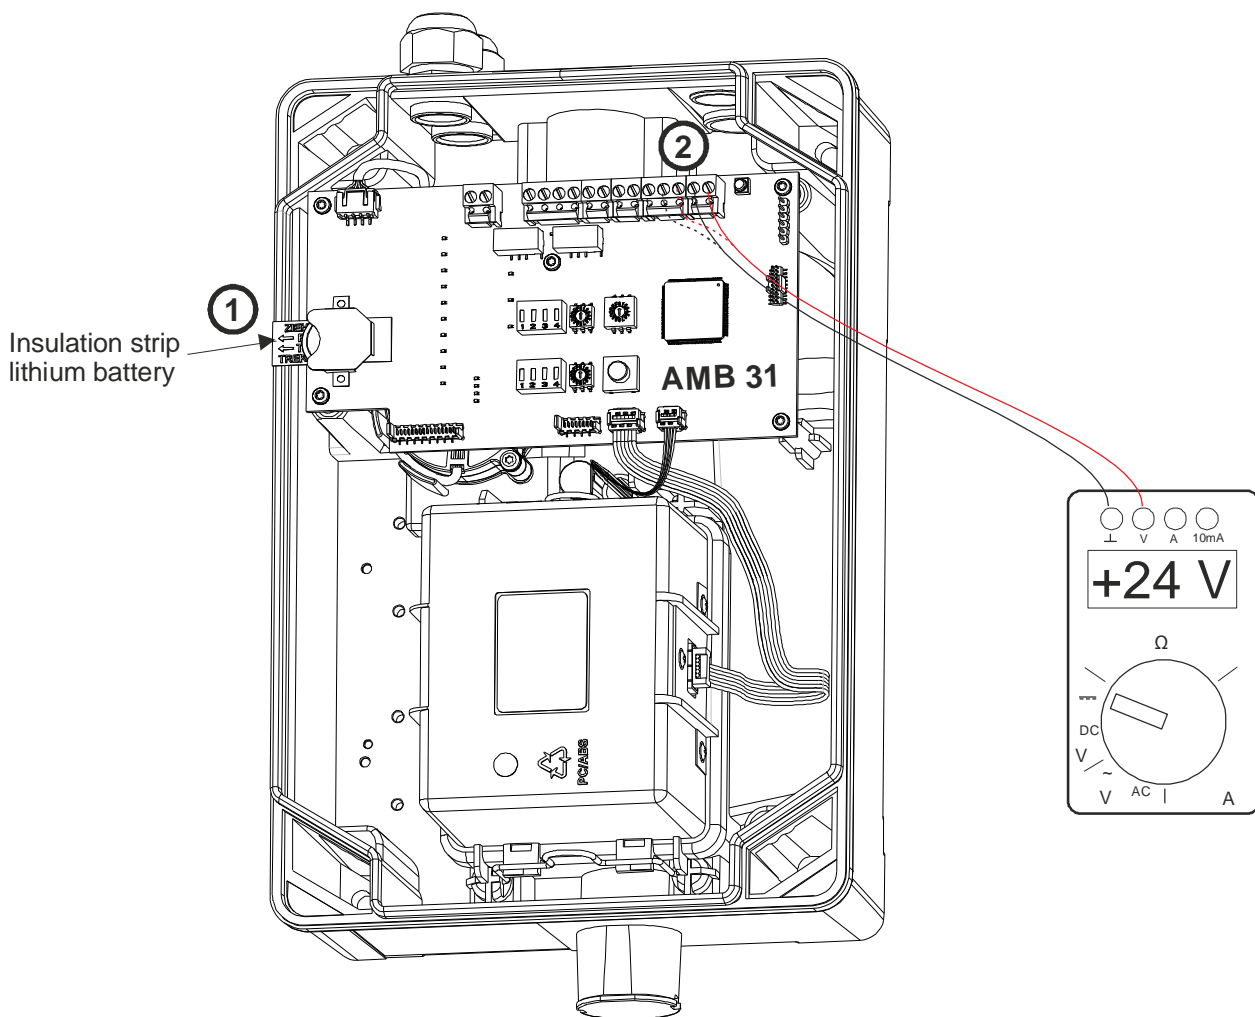

Fig. 45 Detector housing opened for commissioning
- Remove isolation strips of lithium battery (on AMB 31) (see Fig. 45 (1)).
- Check the voltage on terminals 1 and 2 (check also terminals 3 and 4 in the case of a redundant supply): 21.6 to 27.6 VDC (with 24 VDC power supply) (see Fig. 45 (2)).